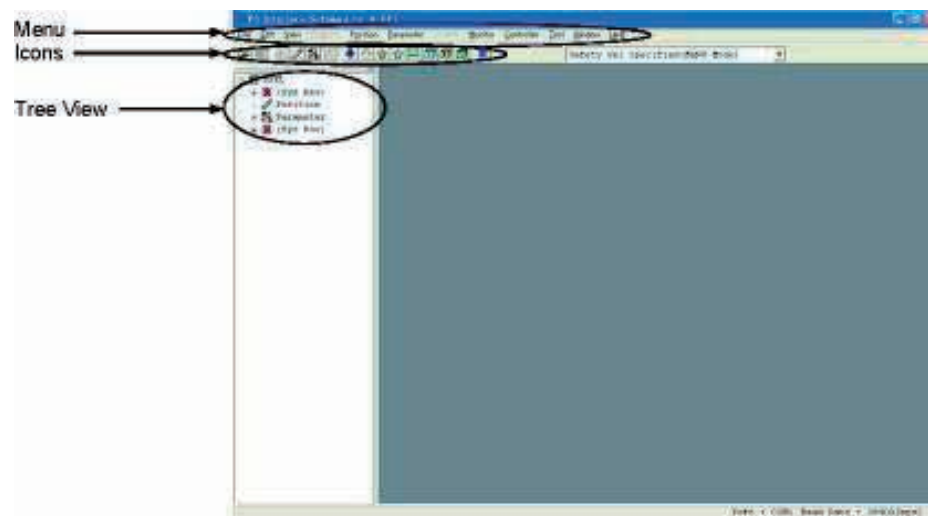

Fig. 3.6 Online Screen (SSEL Controller in the Positioner Mode)
(6) SSEL controller in the positioner mode
When this software has been started, the main window in Fig. 3.6 will open showing the menu items with icons on the tool bar in the case of the SSEL controller in the positioner mode. The tree view appearing on the left side of the window can be displayed by clicking **View (V)** from the menu bar and then selecting **Tree View (T)**. (Initial window: Main menu)